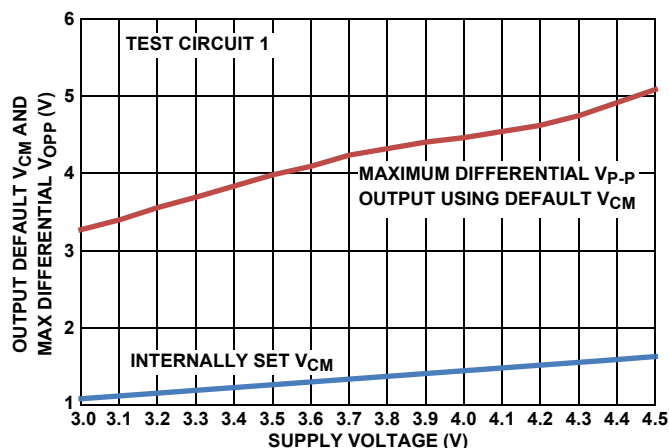
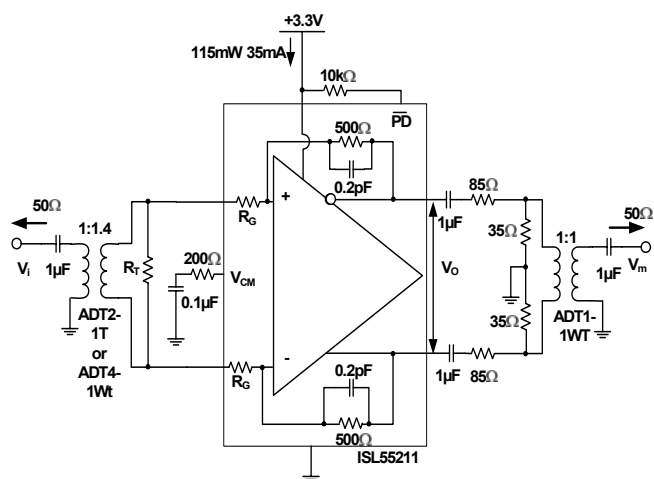
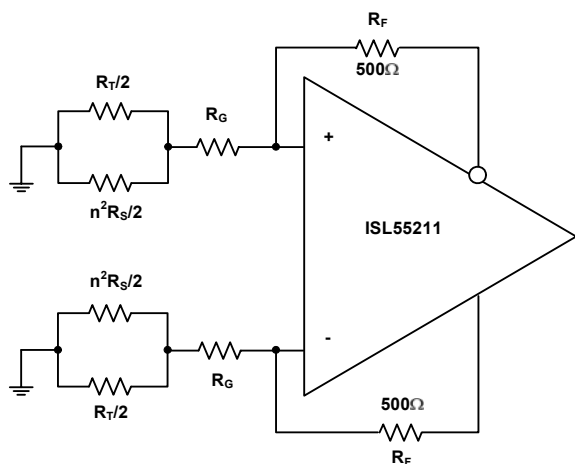
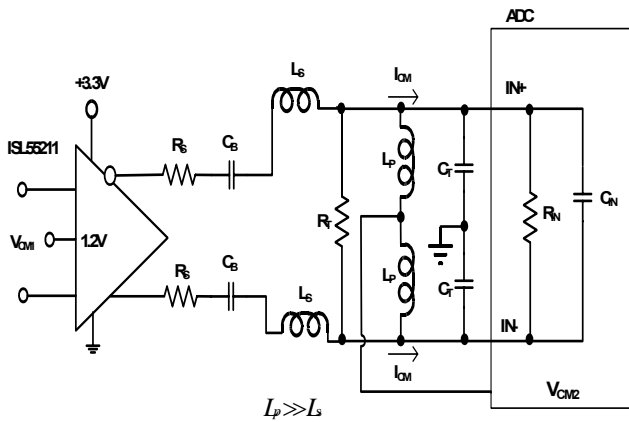

FIGURE 27. DEFAULT V_{CM} AND MAX V_{Opp} vs SUPPLY VOLTAGE
FIGURE 29. TEST CIRCUIT 1
FIGURE 35. NOISE GAIN MODEL FOR THE TRANSFORMER COUPLED INPUT CIRCUIT OF FIGURE 29
FIGURE 37. AC-COUPLED, HIGHER FREQUENCY RLC INTERSTAGE FILTER DESIGN
Test Circuit 1 of Figure 29 forms a starting point for many of the characterization curves for the ISL55211. Since most lab sources and measurement devices are single-ended, this circuit converts to differential at the input through a wideband transformer and would also be a typical application circuit coming from a single-ended source. Assuming the source is a 50Ω impedance, the internal R_G resistors and external R_T are set to provide both the input termination and the gain. Since the inverting summing nodes act as virtual ground points for AC signal analysis, the total termination impedance across the input transformer secondary will be $(2 * R_G) || R_T$. Setting this equal to $n^2 * R_S$ will give a matched input impedance inside the bandwidth of the transformer (where "n" is the turns ratio). The amplifier gain is fixed by the selected input R_G element and the internal 500Ω feedback resistors. While the ISL55211 is internally a Voltage Feedback Design (VFA) to give the lowest possible noise, internal compensation caps hold the bandwidth over gain setting approximately constant at 1.4GHz. For wider small signal bandwidth at lower gains, consider the ISL55210, which provides >2.2GHz at a gain of 12dB.
Working with a transformer coupled input as shown in Figure 29, or with two DC blocking caps from a differential source, means the output common mode voltage set by either the default internal V_{CM} setting, or a voltage applied to the V_{CM} control pin, will also appear as the input common mode voltage. This provides a very easy way to control the ISL55211 I/O common mode operating voltages for an AC-coupled signal path. The internal common mode loop holds the output pins to V_{CM} and, since there is no DC path for an I_{CM} current back towards the input in Figure 29, that V_{CM} setting will also appear as the input common mode voltage. It is useful, for this reason, to leave any input transformer secondary centertap unconnected. The internally set V_{CM} voltage is referenced from the negative supply pin. With a single 3.3V supply, it is very close to 1.2V but will change with total supply voltage across the device as shown in Figure 27.
Most of the characterization curves starting with Figure 29 then get different gains by changing the connections to the two pairs of input R_G connections, as shown on the pin configuration drawing on page 2. Two input turns ratios are intended for Test Circuit 1; either a 1:1.4 turns ratio (ohms ratio of 2) or a 1:2 turns ratio (ohm ratio of 4). The specific transformers shown in Figure 29 are representative of broadband RF transformers but alternate devices and manufacturers of these turns ratio devices are certainly applicable. The output side of this test circuit presents a differential 200Ω load while converting the differential to single-ended through a resistive attenuator and a 1:1 transformer. This inserts approximately a 17dB insertion loss that is removed to report the characteristic curves. For load tests below the 200Ω shown in Figure 29, a simple added shunt resistor is placed across the output pins. For loads > 200Ω, the series and shunt load R's are adjusted to show that total load (including the 50Ω measurement load reflected through the 1:1 output measurement port transformer) and provide an apparent 50Ω differential source to that transformer. This output side transformer is for measurement purposes only and is not necessary for final applications circuits. There are output interface designs that do benefit from a transformer as part of the signal path as shown in Figure 1. In that case, the 1:1:4 output side transformer becomes part of a filter design and recovers the filter insertion loss from the amplifier output pins to the ADC inputs.
The characterization circuit of Figure 29 shows one possible input stage interface that offers several advantages. Where AC coupling is adequate, the circuit of Figure 29 simplifies the input common mode voltage control. If the source coming into this stage is single-ended, the input transformer provides a zero power conversion to differential. The two gain resistors (R_G in Figure 29) provide both a portion of the input termination impedance and the gain element for the amplifier. For 50Ω systems, these R_G resistors are too high with the turns ratios shown in Figure 29 to provide the full match and an external R_T resistor is required. This R_T element goes away at the highest gain setting using a 1:2 input turns ratio transformer.
This input interface also simplifies the input common mode control. The V_{CM} pin controls the output common mode voltage. In most DC-coupled FDA applications, the input common mode voltage is determined by both this output common mode and the source signal. In a configuration like Figure 29, there is no path for a common mode current to flow from output to input, so the input common mode voltage equals the output. A similar effect could be achieved with just two blocking caps on the two R_G resistors. A DC-coupled, single to differential, configuration will also have a common mode input that is moving with the input signal. Converting to just a differential signal at the amplifier, as in Figure 29, removes any input signal related artifacts from the input common mode making the ISL55211 behave as a differential only VFA amplifier. There is only a very small differential error signal at the inputs set by the loop gain, as in a
maximum differential $V_{p,p}$ swing will be 4x this 0.6V single-ended limit or $2.4V_{p,p}$. Where $+V_s$ is increased, the limit then becomes the 0.9V below V_{CM} , but then the absolute maximum differential $V_{p,p}$ is then $4 \times 0.9V$ to $3.6V_{p,p}$. So for instance, to get this maximum output swing, increase the supply voltage until $+V_s - 1.5V > V_{CM} + 0.9V$. If we assume a V_{CM} voltage of 1.3V for instance, then $1.3V + 0.9V + 1.5V = 3.7V$ will give an unclipped $3.6V_{p,p}$ output capability. The $V_{p,p}$ reported in Figure 27 is an asymmetrically clipped maximum swing. Going 10% above this 3.7V target to 4.1V will be within the recommended operating range and give some tolerancing headroom that would also suggest the V_{CM} voltage be moved up to approximately 1.5V, which coincides with the default output V_{CM} from Figure 27. Operating at +4.1V single supply in a Figure 29 type configuration will give the maximum linear differential output swing of $3.6V_{p,p}$.
The differential inputs internal to the ISL55211 also have operating range limits relative to the supply voltages. Operating in an AC-coupled circuit like Figure 29 will produce an input common mode voltage equal to the outputs. The inputs can operate with full linearity with this V_{CM} voltage down to 1.1V above the $-V_s$ supply. On the default 1.2V output V_{CM} on +3.3V supplies this gives a 100mV guardband on the input V_{CM} voltages. Overriding the default V_{CM} by applying a control voltage to the V_{CM} pin should be done with care in going towards the negative supply due to this limit. On the + side, the maximum input V_{CM} above the $-V_s$ supply is 2V so there is more room to move the output V_{CM} up than down from the default value.
+85°C maximum operating ambient from Figure 27, we get 4.5V*45mA*+120°C/W = +24°C rise above +85°C or approximately +109°C operating T_J maximum - still well below the specified Absolute Maximum operating junction temperature of +135°C.
Adding an input transformer can improve the input referred noise by adding a noiseless voltage gain. Starting from Test Circuit 1 of Figure 29, and assuming the source shows a matched broadband source R_S that will be matched by the input referred parallel combination of 2*R_G || R_T, a noise gain analysis circuit can be developed as shown in Figure 35.
Stepping through the 3 gain settings with two input transformers will allow the noise gain to be calculated for the circuit of Figure 35, which is all that is needed in Equation 1 to arrive at an output differential noise (since R_F is fixed at 500Ω). Doing this gives Table 4.
2. AC-coupled, higher frequency range interstage filter design. This design replaces the R_T resistors in Figure 35 with large valued inductors and implements the filter just using shunt resistors at the end of the RLC filter. In this case, the ADC V_{CM} can be tied to the centerpoint of the bias path inductors (very much like a Bias-T) to provide the common mode voltage and current to the ADC inputs. These bias inductors do limit the low frequency end of the operation where, with $1\mu\text{H}$ values, operation from 10MHz to 200MHz is supported using the approach of Figure 37.